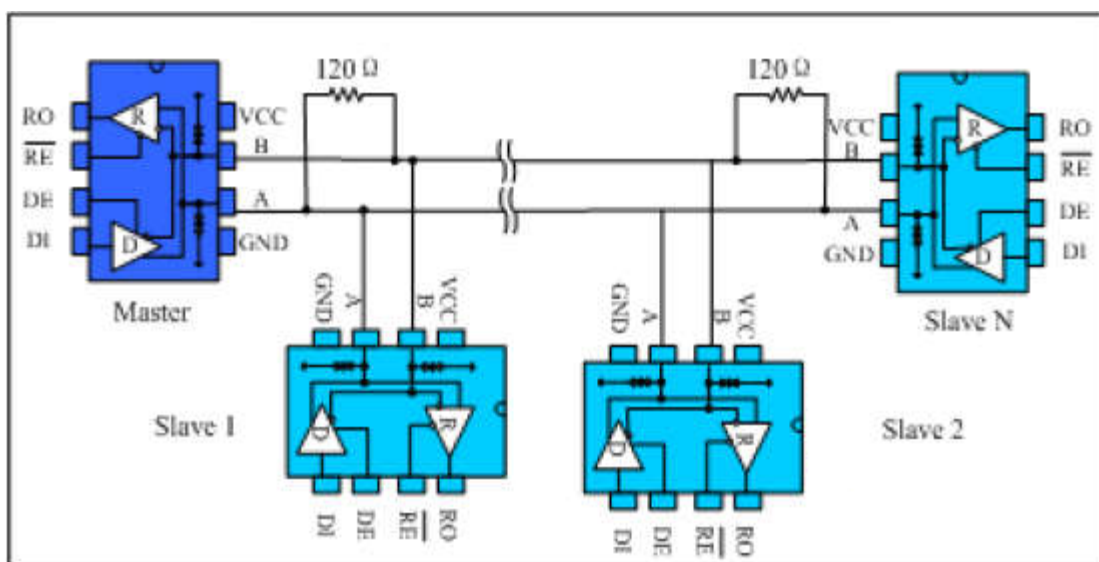

Fig. 9 Bus-type RS485 half-duplex communication network
**4.1 Bus networking:** The SP3485 RS485 transceiver is designed for bidirectional data communication on multi-point bus transmission lines. Figure 9 shows a typical network application circuit. These devices can also be used as linear repeaters with cables longer than 4000 feet. In order to reduce reflections, terminal matching should be done at both ends of the transmission line with their characteristic impedance, and the length of the branch wires other than the main line should be as short as possible.